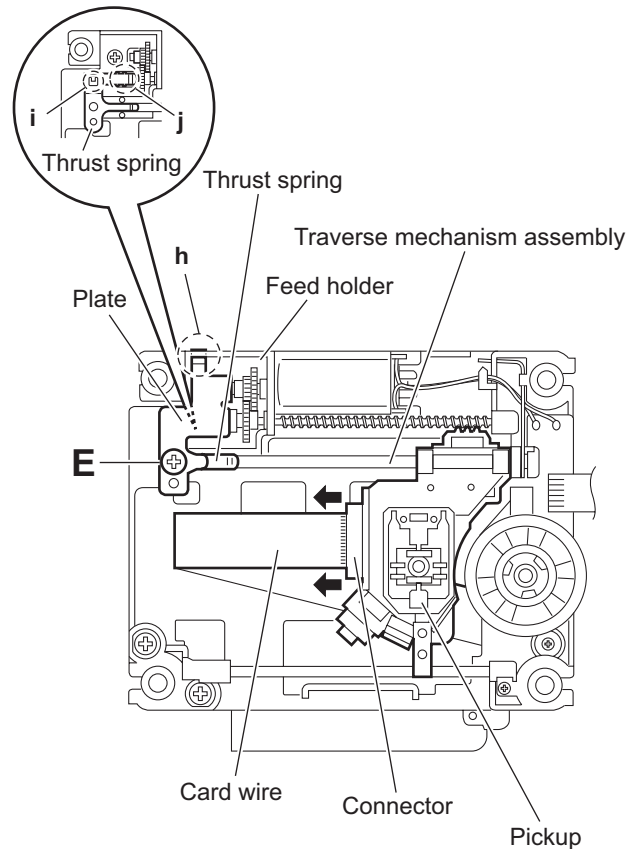

Fig.6
- Release the lock of the connector on the pickup in the direction of the arrow and disconnect the card wire. (See Fig.6.)
- Remove the screw **E** attaching the plate and thrust spring. (See Fig.6.)
- Remove the engagement section **h** attaching the plate to the feed holder and remove the plate. (See Fig.6.)
- Remove the engagement sections (**i, j**), remove the thrust spring. (See Fig.6.)
- (3) Attach the plate and thrust spring. (See Fig.6.)